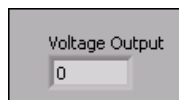

Figure 10.15
1. Open the `Voltage Output VI` located in the `C:\Exercises\LabVIEW Basics I` directory. The front panel (Figure 10.15) is already built.